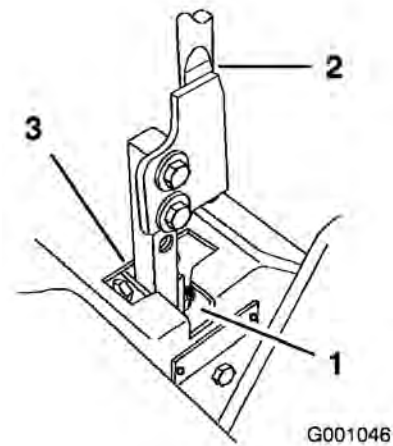

Figure 61
5. Move the lever to the neutral position but not locked (Figure 61).
6. Pull the lever back until the clevis pin (on arm below pivot shaft) contacts the end of the slot (just beginning to put pressure on the spring) (Figure 61).
7. Check where the control lever is relative to notch in console (Figure 61). It should be